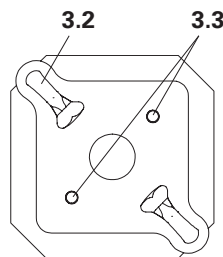

Fig. A2.19a
1. Place MULTIPROP MP (1) on Base MP 50 (3).
2. Centring pins (3.3) engage with the drilled holes of the Base Plate (1.8) or Head Plate (1.9) of the MULTIPROP MP (1). (Fig. A2.19a)